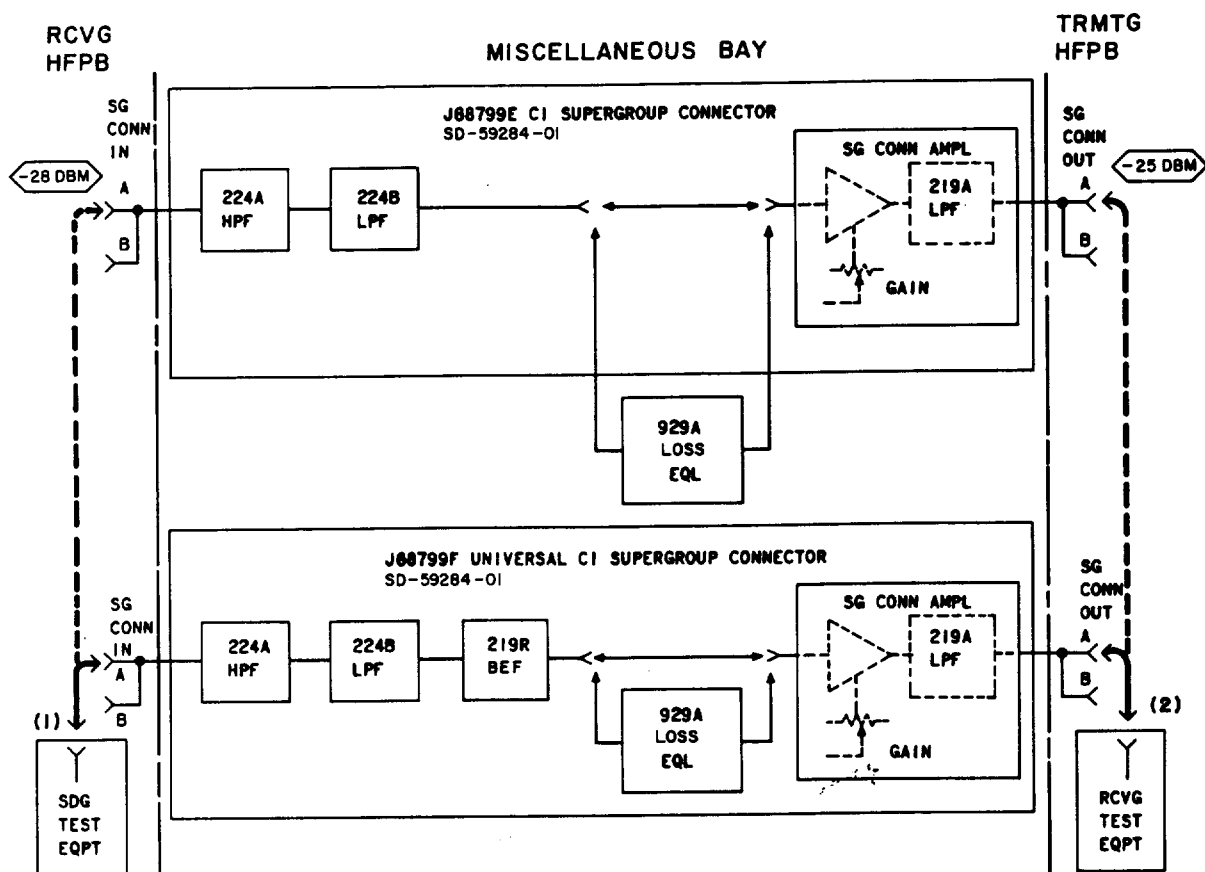

Fig. 2—C1 Supergroup Connector—J68799E and F—Patching Diagram
The supergroup connector has a nominal gain of 3 dB which can be adjusted by the GAIN control on the supergroup amplifier. An option is provided for inserting a 929A loss equalizer (Fig. 2).
<p>At the supergroup connector office:</p> <ol style="list-style-type: none"> <li>1 Ensure that the equipment to be tested is out of service.</li> <li>2 If a 929A loss equalizer is used, set the HIGH and LOW controls to the 0 position.</li> </ol> <p>BANDPASS TEST</p> <ol style="list-style-type: none"> <li>3 Adjust the RTE as follows: Impedance: 75 ohms, unbalanced Frequency: 315.92 kHz Power: -25 dBm.</li> <li>4 Adjust the STE as follows: Impedance: 75 ohms, unbalanced Frequency: 315.92 kHz Power: -28 dBm.</li> <li>5 Connect the STE to the SG CONN IN A jack [patch (1), Fig. 2].</li> <li>6 Connect the RTE to the SG CONN OUT A jack [patch (2), Fig. 2].</li> <li>7 Measure and record the power at the SG CONN OUT A jack.</li> </ol> <p>Requirement: -25 dBm <math>\pm 0.2</math> dB</p>
16	Remove patch (1), Fig. 2.
25	<p>Remove patch (2), Fig. 2.</p>